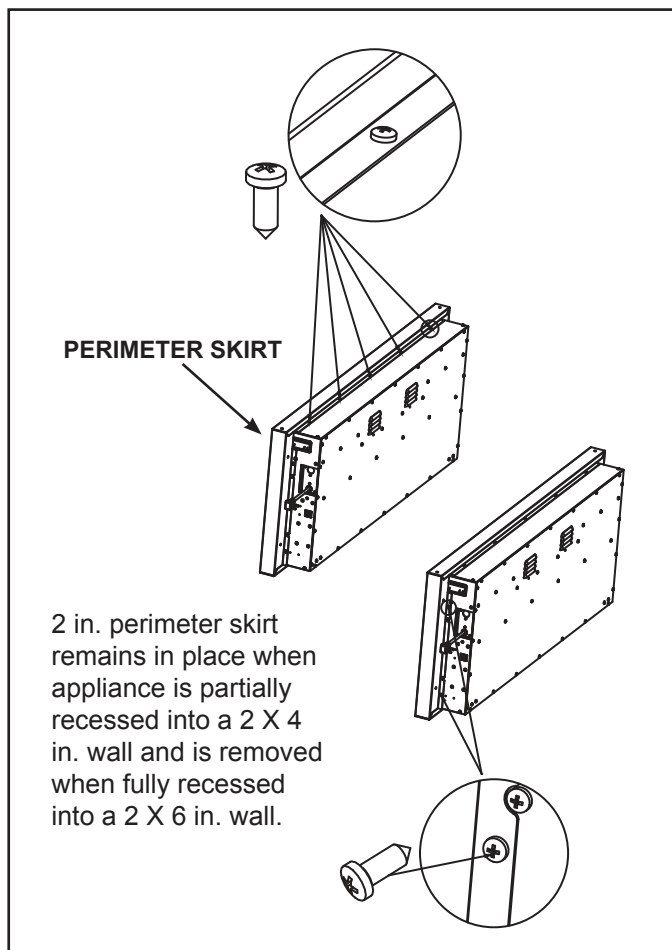

Figure 4.2 Perimeter Skirt
The appliance is shipped with a two (2) in. deep perimeter skirt that remains in place when appliance is recessed into 2 X 4 in. framed wall construction. See Figure 4.2. If this is the installation, no further preparation is necessary. Refer to Section 4.C for installation instructions.
If the appliance recessed is into 2 X 6 in. framed wall construction, the two (2) in. deep perimeter skirt must be removed and discarded. See Figure 4.2. Refer to Section 4.B for installation instructions.
2. Remove and discard the skirt that was factory-installed to the appliance. See Figure 4.2. and Section 4.A.